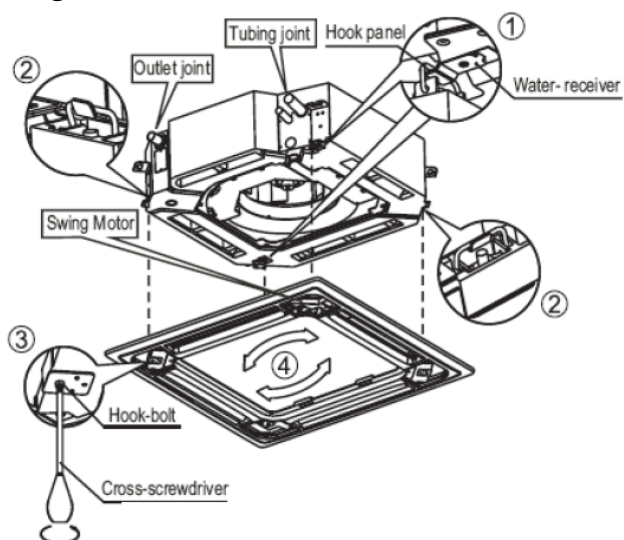

Fig.4-12
- Align the swing motor on the panel to the tubing joints of the body properly. *(Refer to Fig.4-12)*